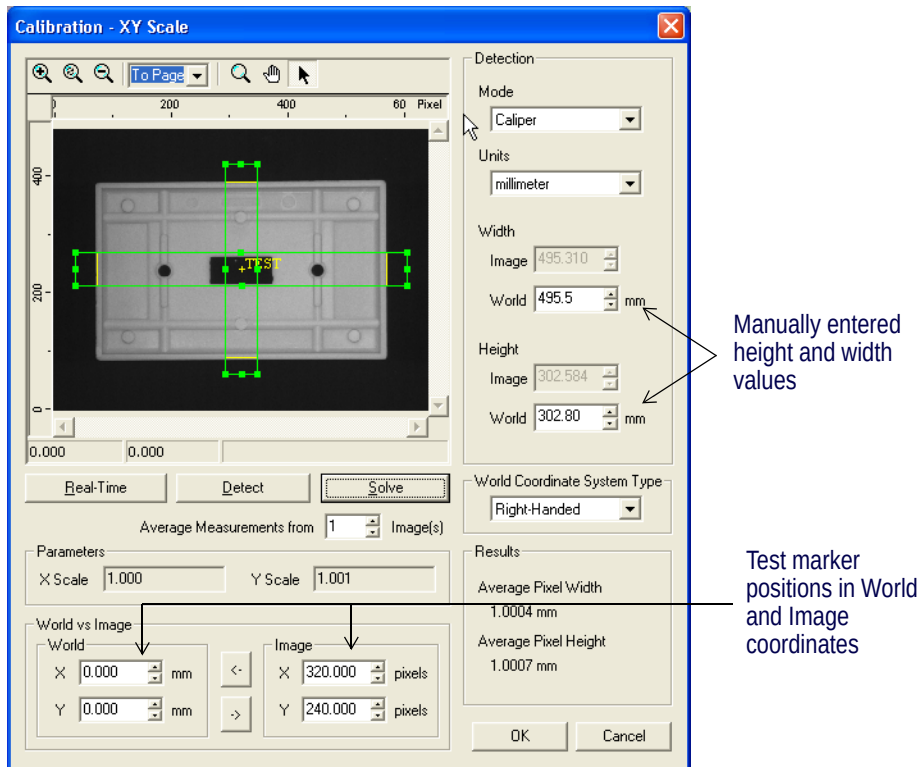

Figure 224 XY Scale Calibration Dialog
2. Click **Show Calibration Dialog** to open **XY Scale Calibration** dialog. See Figure 224.